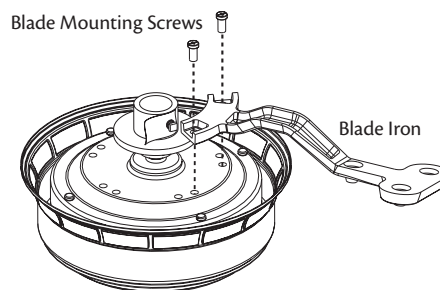

Figure 23 - Attaching the blade assembly to the hub of the fan assembly
5. For each blade, insert one blade mounting screw through the blade iron as shown in Figure 23, and attach lightly to the fan. Insert the second blade mounting screw, then securely tighten both mounting screws.